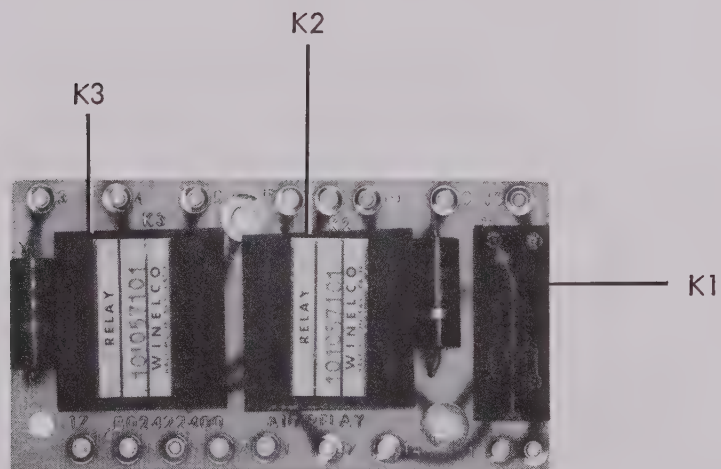

Figure 3-57. Board A10 Relay Board B02422400
h. Relay Board, Module A10. (See Figure 3-57) This board contains two of the relays used in the Output Calibration switching functions. One relay, K1, connects the proper output from the dc Transfer Standard to the thermistor bridge relay contact. The other relay controls part of the Output-Calibration indicator light functions. The thermistor bridge relay is mounted on board A5 so that the rf lead connected to it will be of minimum length.